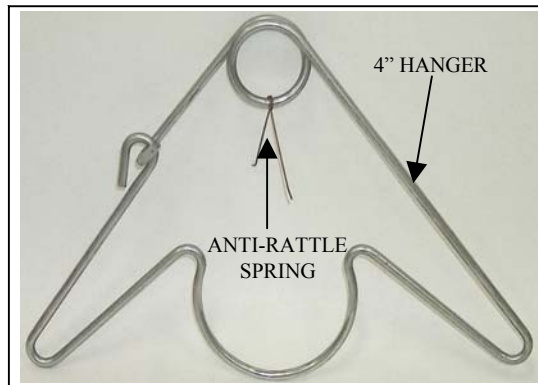

Figure 2-4
1. Each heater comes equipped with the necessary hangers (Figure 2-4) for hanging. If spacing does not allow for standard mounting, additional hangers (#TP-19B) may be necessary.